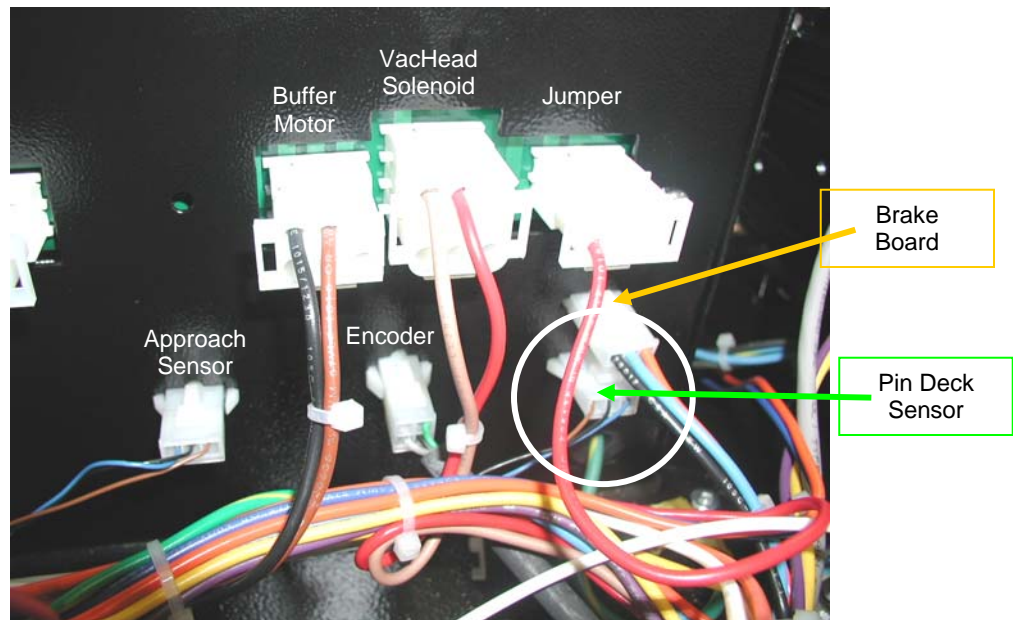

Figure 3-31
8. Follow the path of the sensor wire through the wire harness to the connector at the back of the control enclosure. The connector is the one on the right in the bottom row, as shown in Figure 3-31.